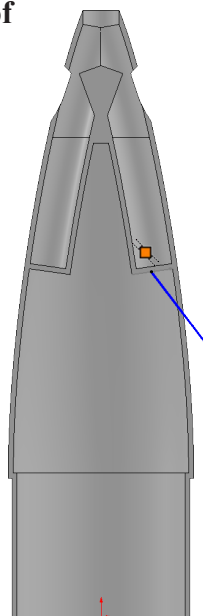

Fig. 57
Step 4. Sketch a line from **midpoint**  of **convert face sketch to outside Nose Cone body**, **Fig. 57**.